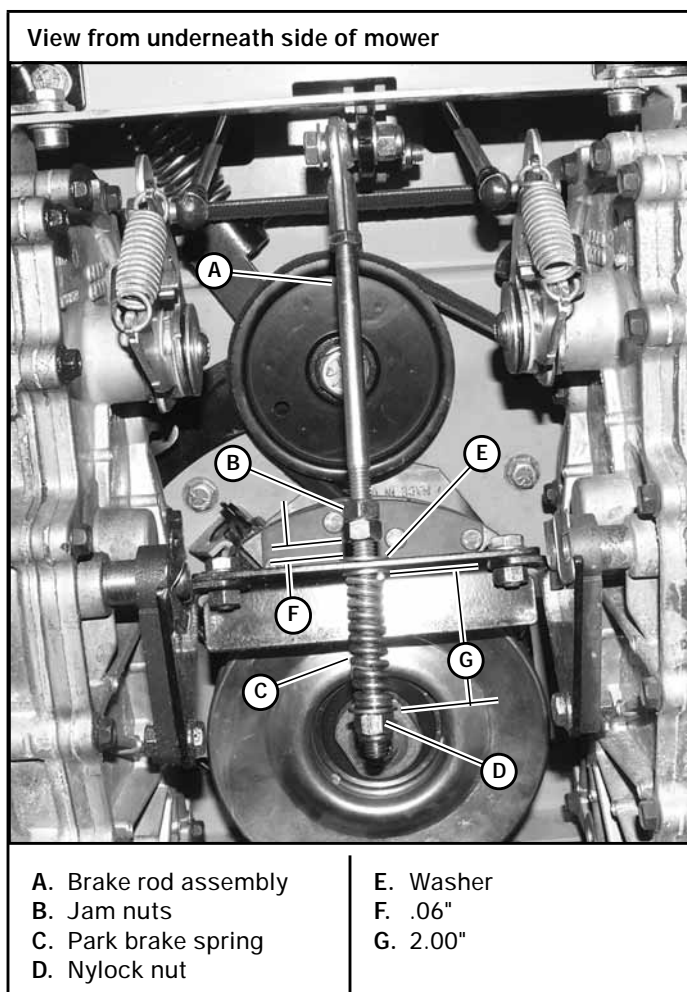

Figure 4-4
5. Measure the park brake spring. It should be compressed to the 2.00". If it is not, adjust the nylock nut until the proper spring compression is achieved. Figure 4-4